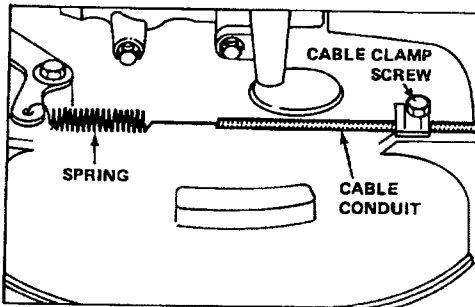

Figure 24
2. Loosen cable clamp screw until brake cable conduit slides (Fig. 24). Pull cable to remove slack, but do not put tension on spring. Tighten screw to lock adjustment in place.